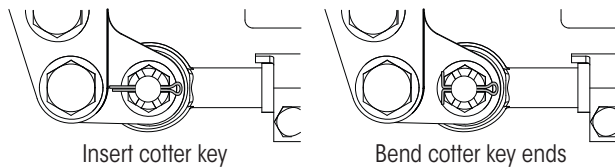

Figure 15: Tie rod end cotter key install
5. **Insert** the cotter pin through castle nut and tie rod end, as shown in Figure 15.